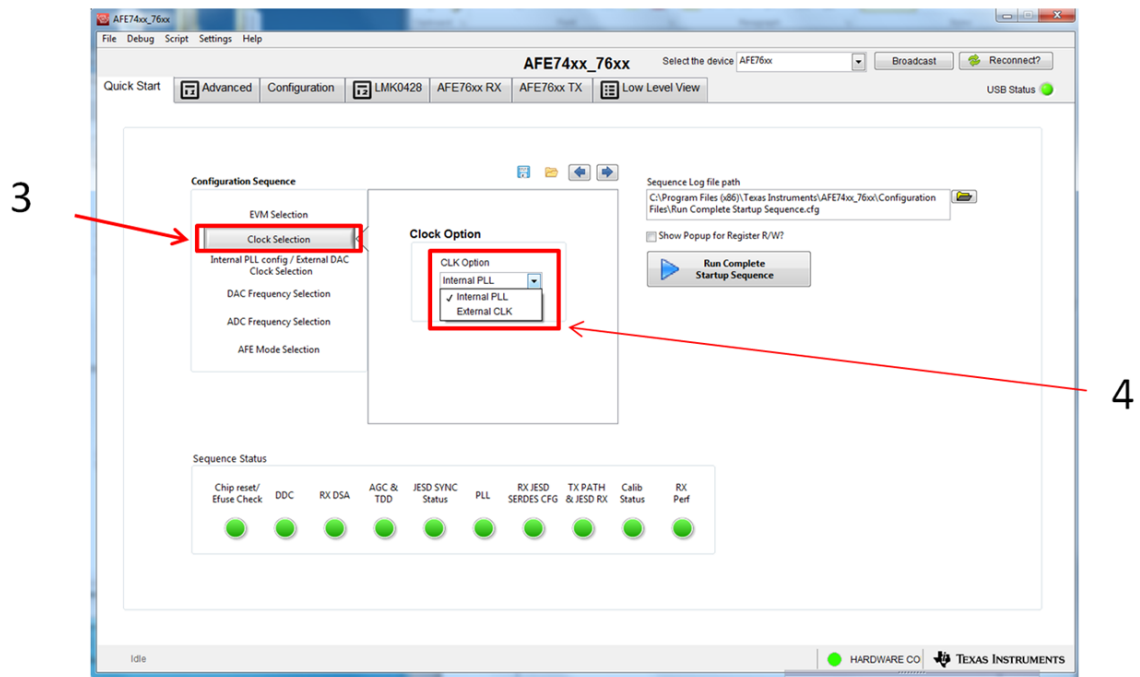

Figure 16. Clock Selection Page
3. Navigate to the *Clock Selection* page, labeled as 3 in Figure 16. The *Clock Selection* page determines whether to clock the AFE74xxEVM with an external clock or use the internal PLL.
4. Select *Internal Clock* under the *CLK Option* drop-down menu, labeled as 4 in Figure 16.